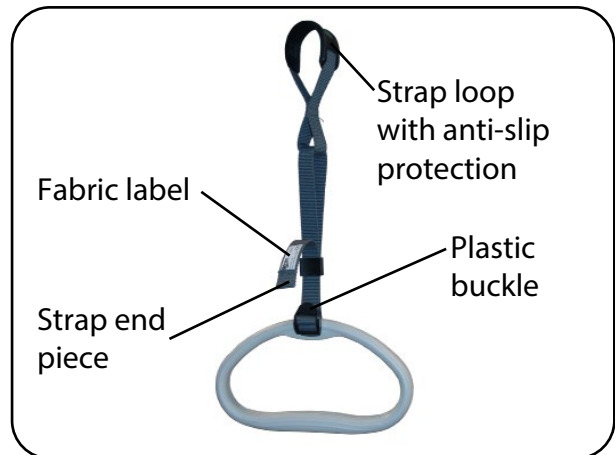

Fig. 6.3.03 – Grab handle with strap
5. Adjust the height of the grab handle to the patient's individual needs. The strap can be adjusted in a range of 20 cm using a plastic buckle (Fig. 6.3.03). When doing so, make sure that no weight is applied to the handle. Make sure that the strap's end piece is at least 3 cm above the plastic buckle (Fig. 6.3.03).